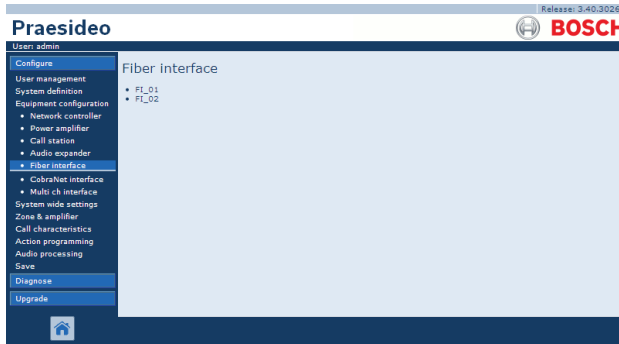

figure 43.31: Configure fiber interface step 1
- 1 Go to *Configure > Equipment configuration > Fiber interface*. A screen similar to the one in figure 43.31 appears in the main frame of the web interface.